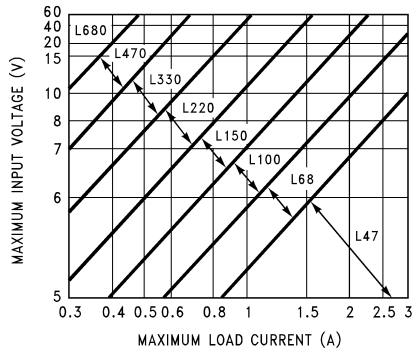
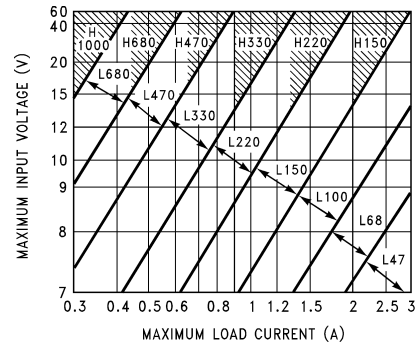
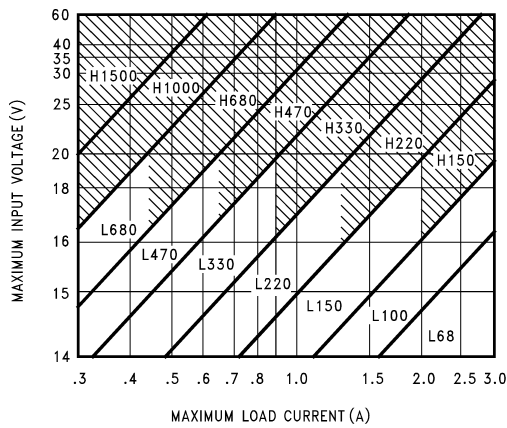
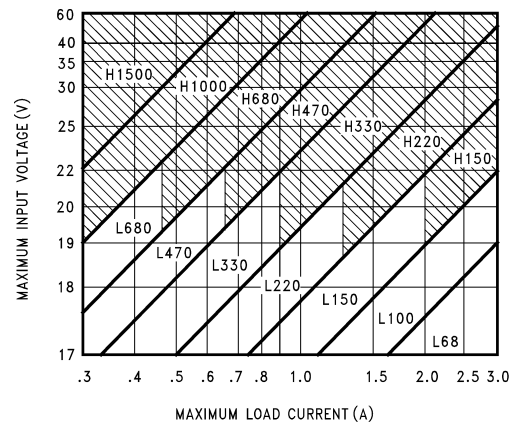

图 8-4. LM2576(HV)-3.3
图 8-5. LM2576(HV)-5.0
图 8-6. LM2576(HV)-12
图 8-7. LM2576(HV)-15
The inductor value selection guides in Figure 8-4 through Figure 8-8 are designed for buck regulator designs of the continuous inductor current type. When using inductor values shown in the inductor selection guide, the peak-to-peak inductor ripple current is approximately 20% to 30% of the maximum DC current. With relatively heavy load currents, the circuit operates in the continuous mode (inductor current always flowing), but under light load conditions, the circuit is forced to the discontinuous mode (inductor current falls to zero for a period of time). This discontinuous mode of operation is perfectly acceptable. For light loads (less than approximately 300 mA), it may be desirable to operate the regulator in the discontinuous mode, primarily because of the lower inductor values required for the discontinuous mode.
1. Select the correct Inductor value selection guide from 图 8-4, 图 8-5, 图 8-6, or 图 8-7. (Output voltages of 3.3 V, 5 V, 12 V or 15 V respectively). For other output voltages, see the design procedure for the adjustable version. Use the selection guide shown in 图 8-5.
- Identify the inductor value from the inductor code, and select an appropriate inductor from the table shown in Figure 8-4. Part numbers are listed for three inductor manufacturers. The inductor chosen must be rated for operation at the LM2576 switching frequency (52 kHz) and for a current rating of  $1.15 \times I_{LOAD}$ . For additional inductor information, see Section 8.1.2. Inductor value required is 100  $\mu\text{H}$  from the table in Figure 8-4. Choose AIE 415-0930, Pulse Engineering PE92108, or Renco RL2444.